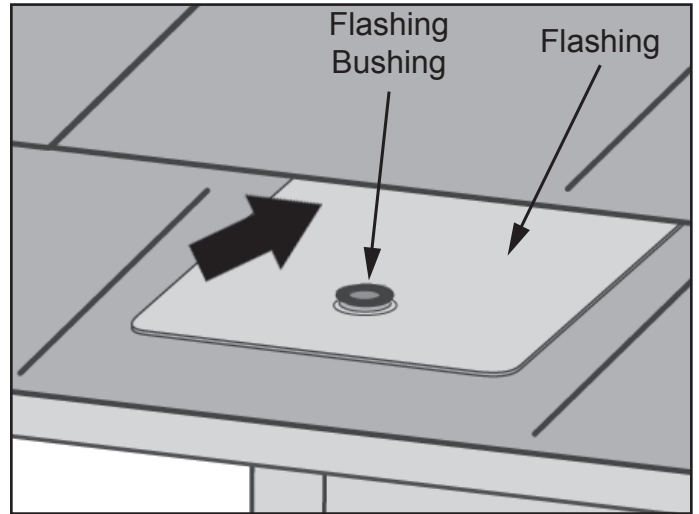

Figure 3.
2. Insert the flashing so the top part is under the next row of shingles and the flashing hole/grommet aligns with the mounting hole. See Figure 3.